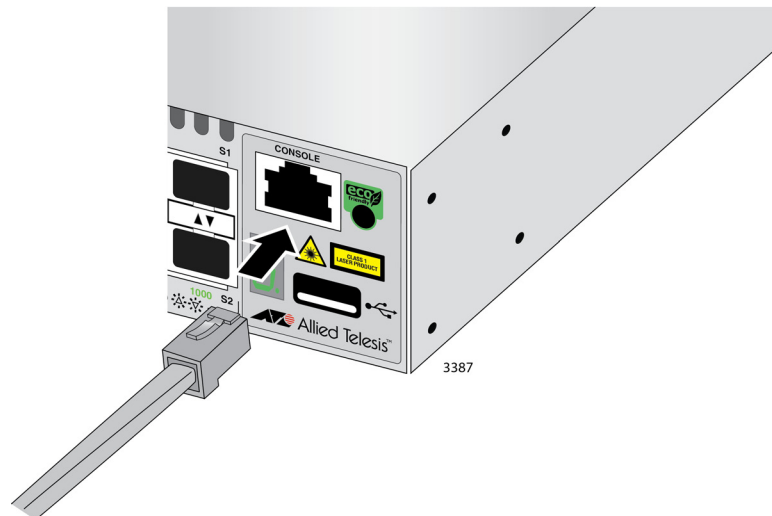

Figure 25. Connecting the Management Cable to the Console Port
1. Connect the RJ-45 connector on the management cable to the Console port on the front panel of the switch, as shown in Figure 25.